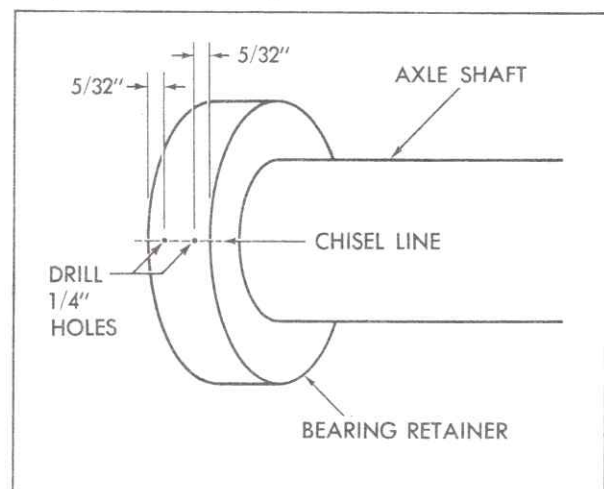

Fig. 4-31 Removing Bearing Retainer (698)
a. Center punch location of drill holes on bearing retainer, following layout illustrated in Fig. 4-31.
b. Drill two 1/4 inch holes, 1/2 inch deep, into side of bearing retainer, Fig. 4-31.